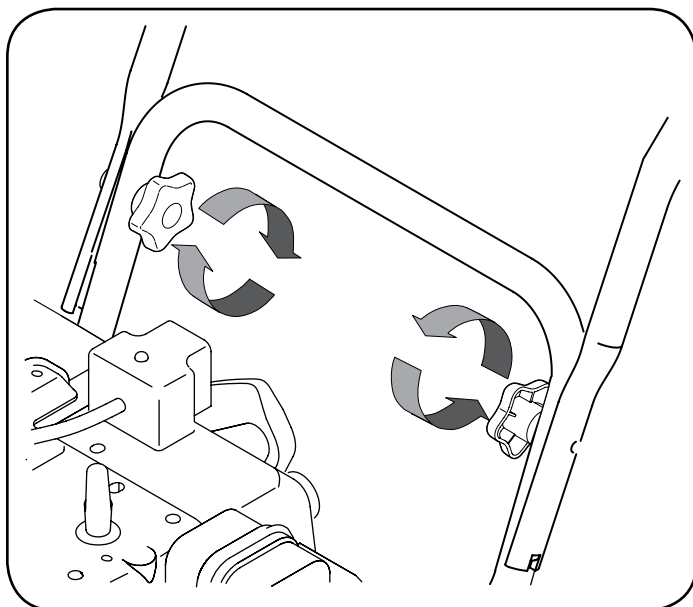

Figure 2
2. Secure the handle by tightening the plastic knob located on both the left and right sides of the handle. Remove and discard any rubber bands, if present. They are for packaging purposes only. See Figure 2.